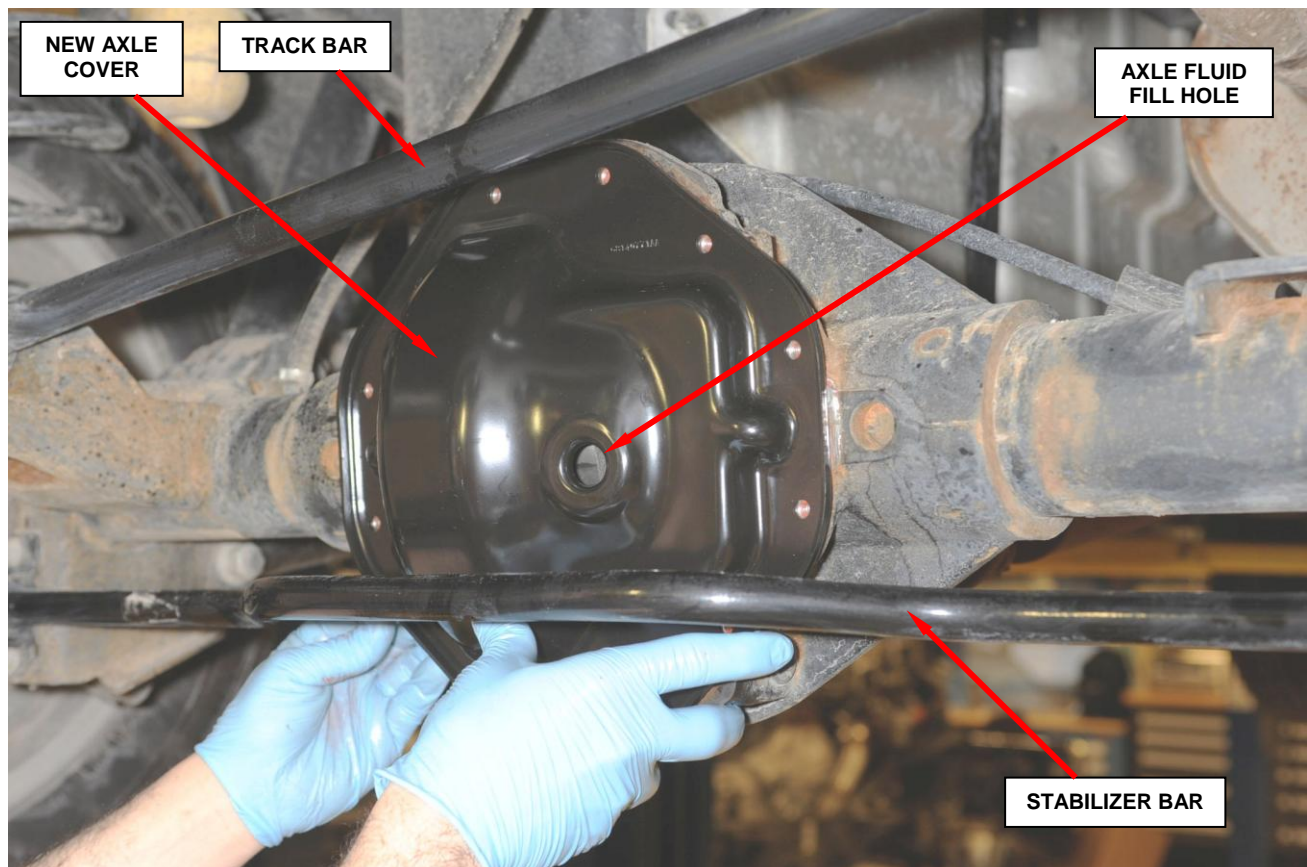

Figure 5 – Install New Axle Cover
13. Carefully install the new axle cover to the axle housing (Figure 5).
16. Fill the rear axle with Mopar Synthetic Gear & Axle Lubricant (SAE 75W-140) (P/N 04874469). With the vehicle level, the axle fluid level must be even with the bottom of the fill hole on the new axle cover (Figure 5).
CAUTION: The original fill plug on the axle housing will no longer be used. DO NOT fill the axle to the bottom of the original fill plug hole on the axle housing, the axle will be under filled. Fill and check axle fluid level using the fill hole on the new axle cover (Figure 5).
17. Install the new rubber fill hole plug into the fill hole on the new axle cover (Figure 5).